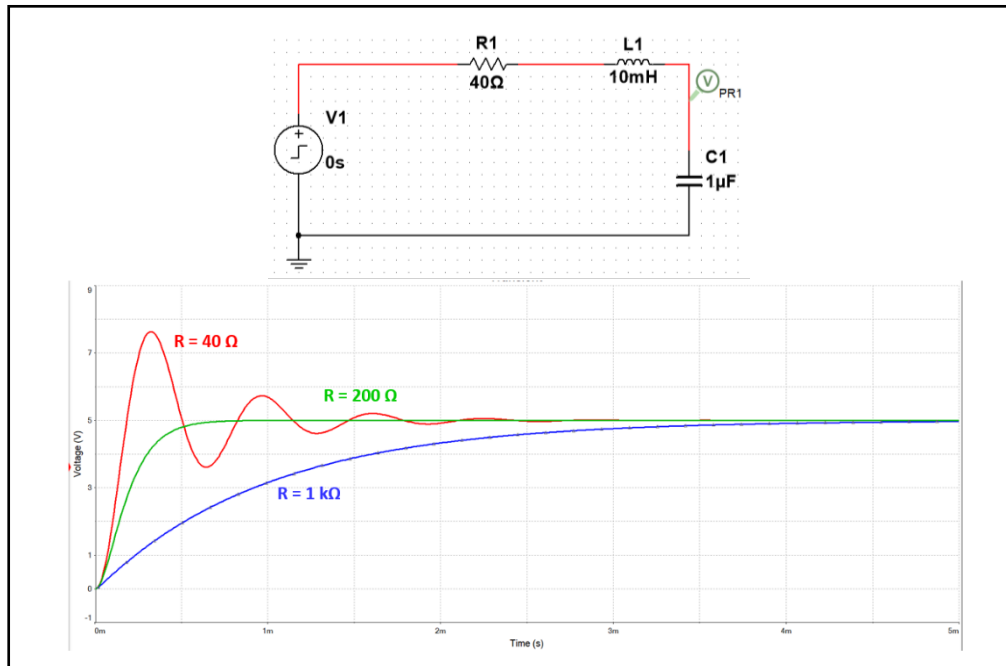

Fig 6.2: Series RLC Circuit Along with its Output Waveform
- Make the circuit connection as per the Fig. 6.2.